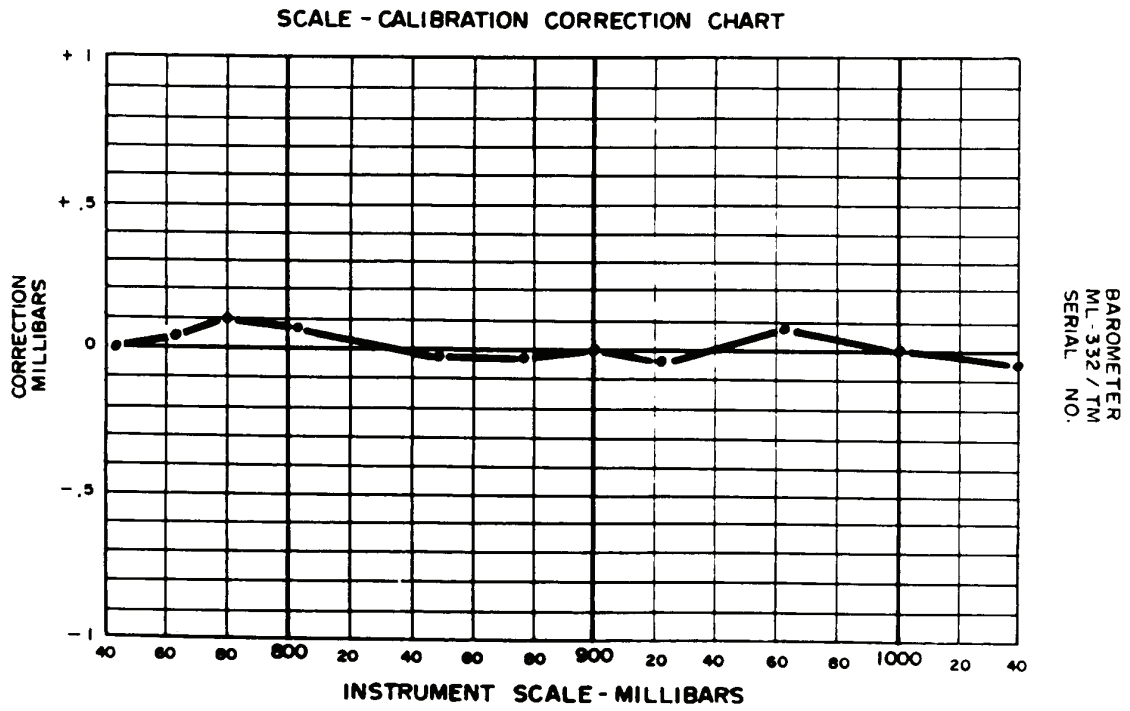

Figure 2. Sample - scale correction.
(7) If TI does not indicate within limits specified, perform **b** below.
(8) For applicable TI's, plot scale error on calibration correction chart and place chart in case cover (see sample, figure 2).